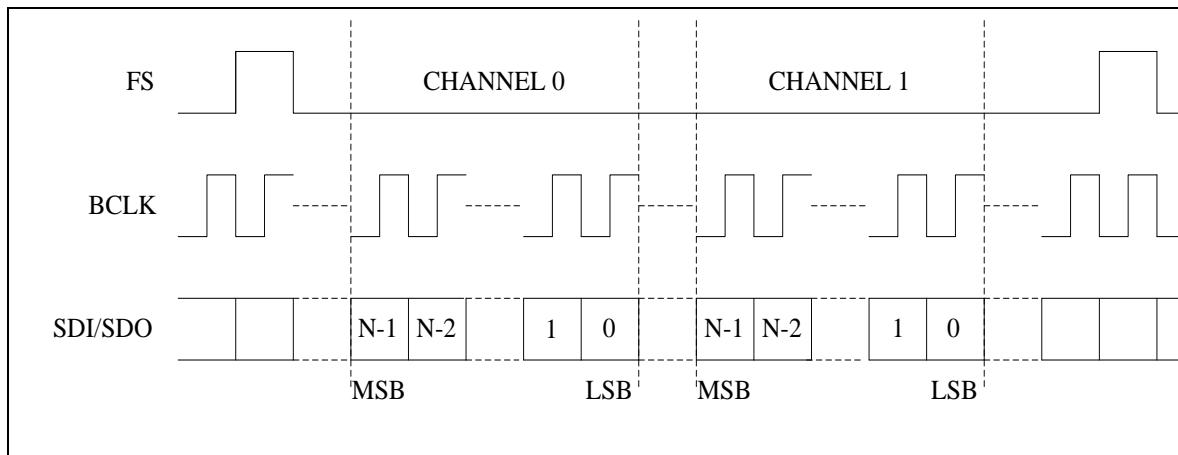

Figure 35 PCM Time Slot Audio Mode
Normally, the DAC and ADC data are clocked immediately after the Frame Sync (FS), however, in the PCM time slot mode; the audio data can be delayed by using the register **LEFT TIME SLOT.TSLOT L0 REG0X1E[9:0]** for the left channel and using the register **RIGHT TIME SLOT.TSLOT R0 REG0X1F[9:0]** for the right channel. The register **I2S_PCM_CTRL2.PCM_TS_EN0 REG0X1D[10]** needs to be set to 1. These delays can be seen in **Figure 35** in front of the MSB.